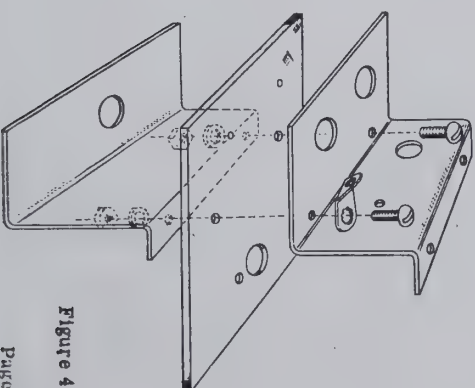

Figure 4
- () Assemble the two brackets and the plastic insulator plate as shown in Figure 4 using 6-32 screws.
- () A solder lug is placed under the head of one screw and positioned as shown in Figure 4. Use lockwashers and nuts on the underside. Center the small holes in the insulator plate with the holes in the bottom bracket before tightening.